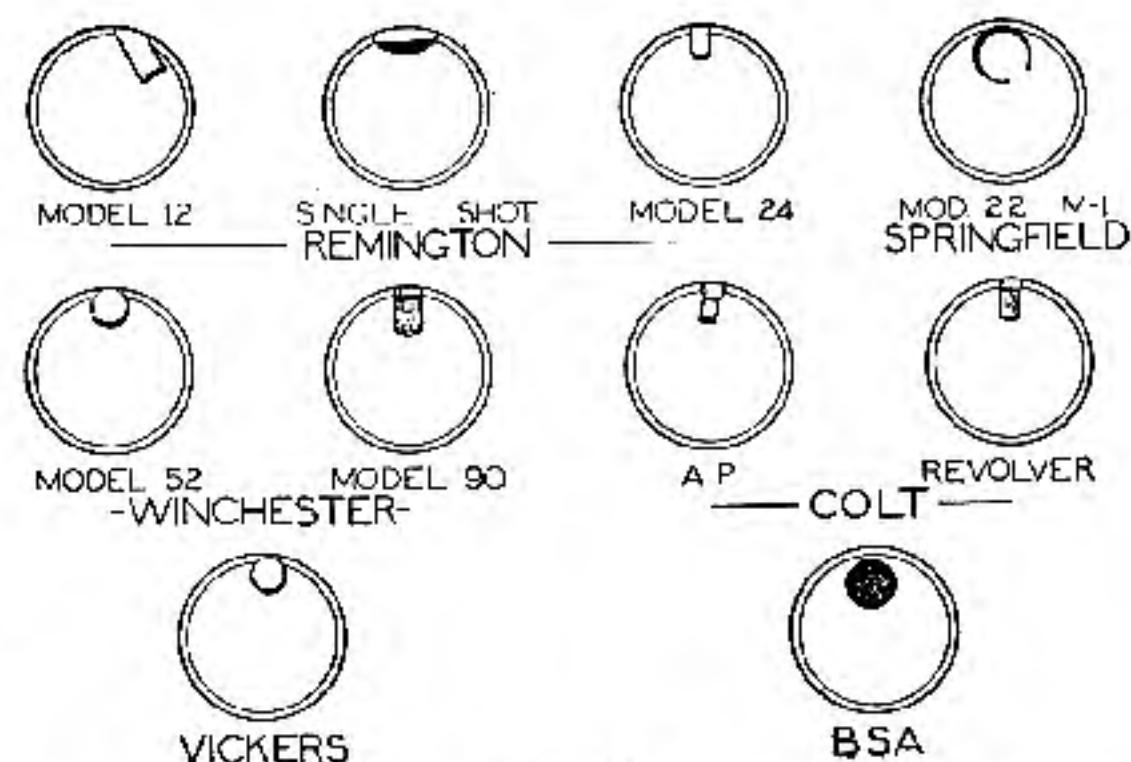

Fig. 142
**Poor Ignition** — Inaccuracy is always first blamed on the ammunition, and not on some other cause; yet such cause may be in the mechanism of the rifle itself, particularly the end of the firing pin. Figure 142 illustrates ten shots fired from
The same trouble is often experienced with the Springfield, caliber .22. You will notice in Figure 142 the indentation left by the striker on the rim of the case. At times the face of one of these strikers becomes very rough from the continual hitting upon the rim or from other causes. Stone the face at right angles and make sure that it has the proper projection; if not, it is better to send for a new striker rather than take the chances of lengthening it.